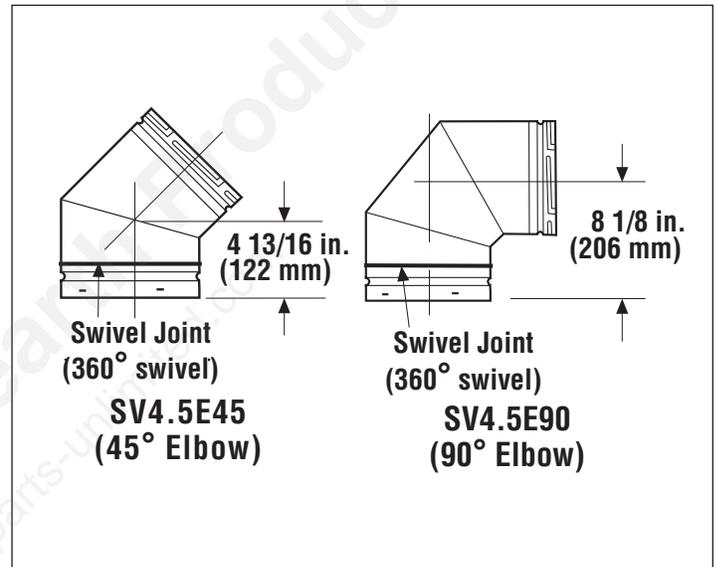

Figure 13 - Elbow Dimensions
- 8. Change vent direction**—At transition from or to a horizontal/inclined run, install SV4.5E45 or SV4.5E90 elbows in the same manner as the straight vent sections. The elbows feature a twist section to allow them to be routed about the center axis of their initial collar section to align with the required direction of the next vent run element. Twist elbow sections in a clockwise direction only so as to avoid the possibility of unlocking any of the previously connected vent sections (Figure 13, page 15).
Vent elbows are available in 90° and 45° configurations. Refer to Figure 13 for the SV4.5E45 and SV4.5E90 elbow dimensions. The elbows feature a twist section to allow them to be routed about the center axis of their initial collar section to align with the required direction of the next vent run element.
1. Rotate the elbow in a clockwise direction (to avoid the possibility of unlocking any of the previously connected vent sections) for proper alignment (Figure 13). See Connecting the vent pipe for more information.
1. **Analyze the vent route and determine the number of vent sections and elbows required**—See Effective Vent Length on table 2, Page 14 for more information. Plan the venting so that a joint does not occur in the ceiling or roof joists. Allow for elbows (Figure 13, page 15). Maintain the minimum clearances for combustibles (Page 7).